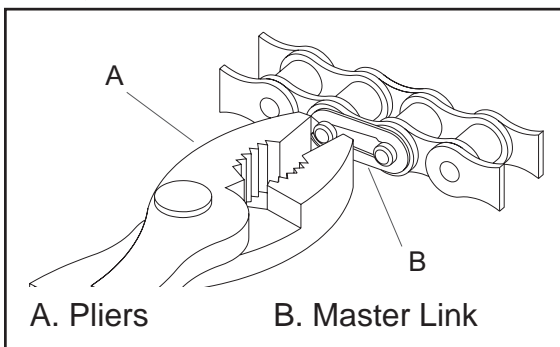

Figure 23. Removal of Master Link Clip
5. Locate “master” link in chain. This link is identified by a clip which holds it in place. The clip, shown in Figure 23, may be removed by